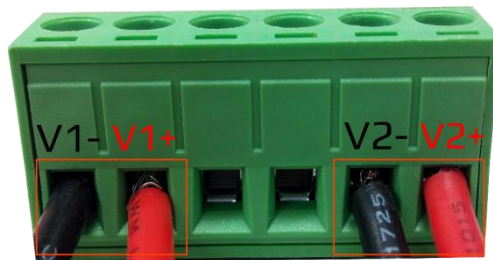

Figure 2.7: Power Terminal Block
Step 1 Insert the positive and negative wires into the PWR1 (V1+, V1-) and PWR2 (V2+, V2-) contacts on the terminal block connector as shown below in Figure 2.7.